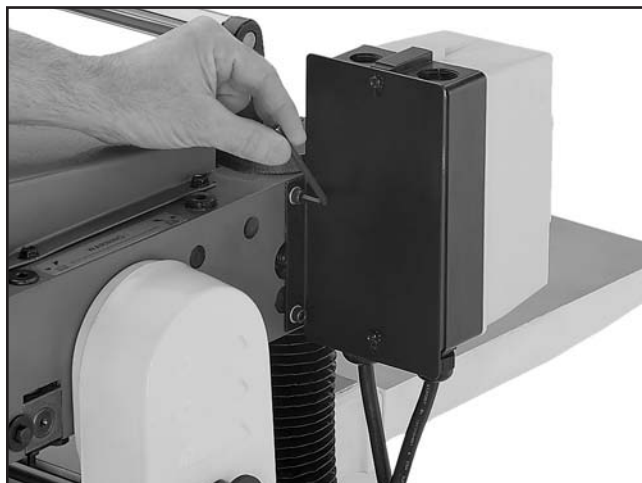

Figure 11. Attaching magnetic switch.
10. Attach the switch bracket with the two cap screws, as shown in **Figure 11**.